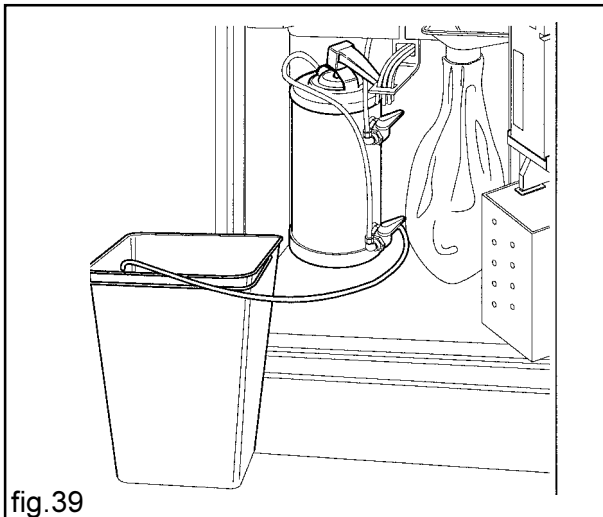

fig.39
- let the water flow out of the waste pipe until it is clear (fig.39).